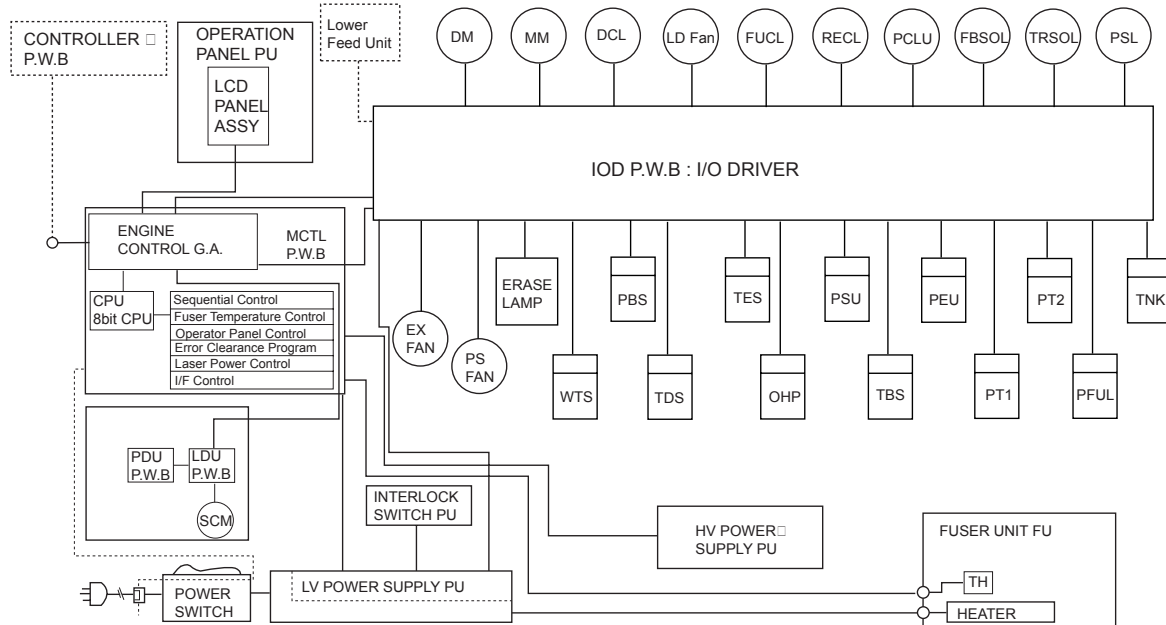

Fig.4-32
(1) Control Block Diagram (Refer to Fig.4-32.)